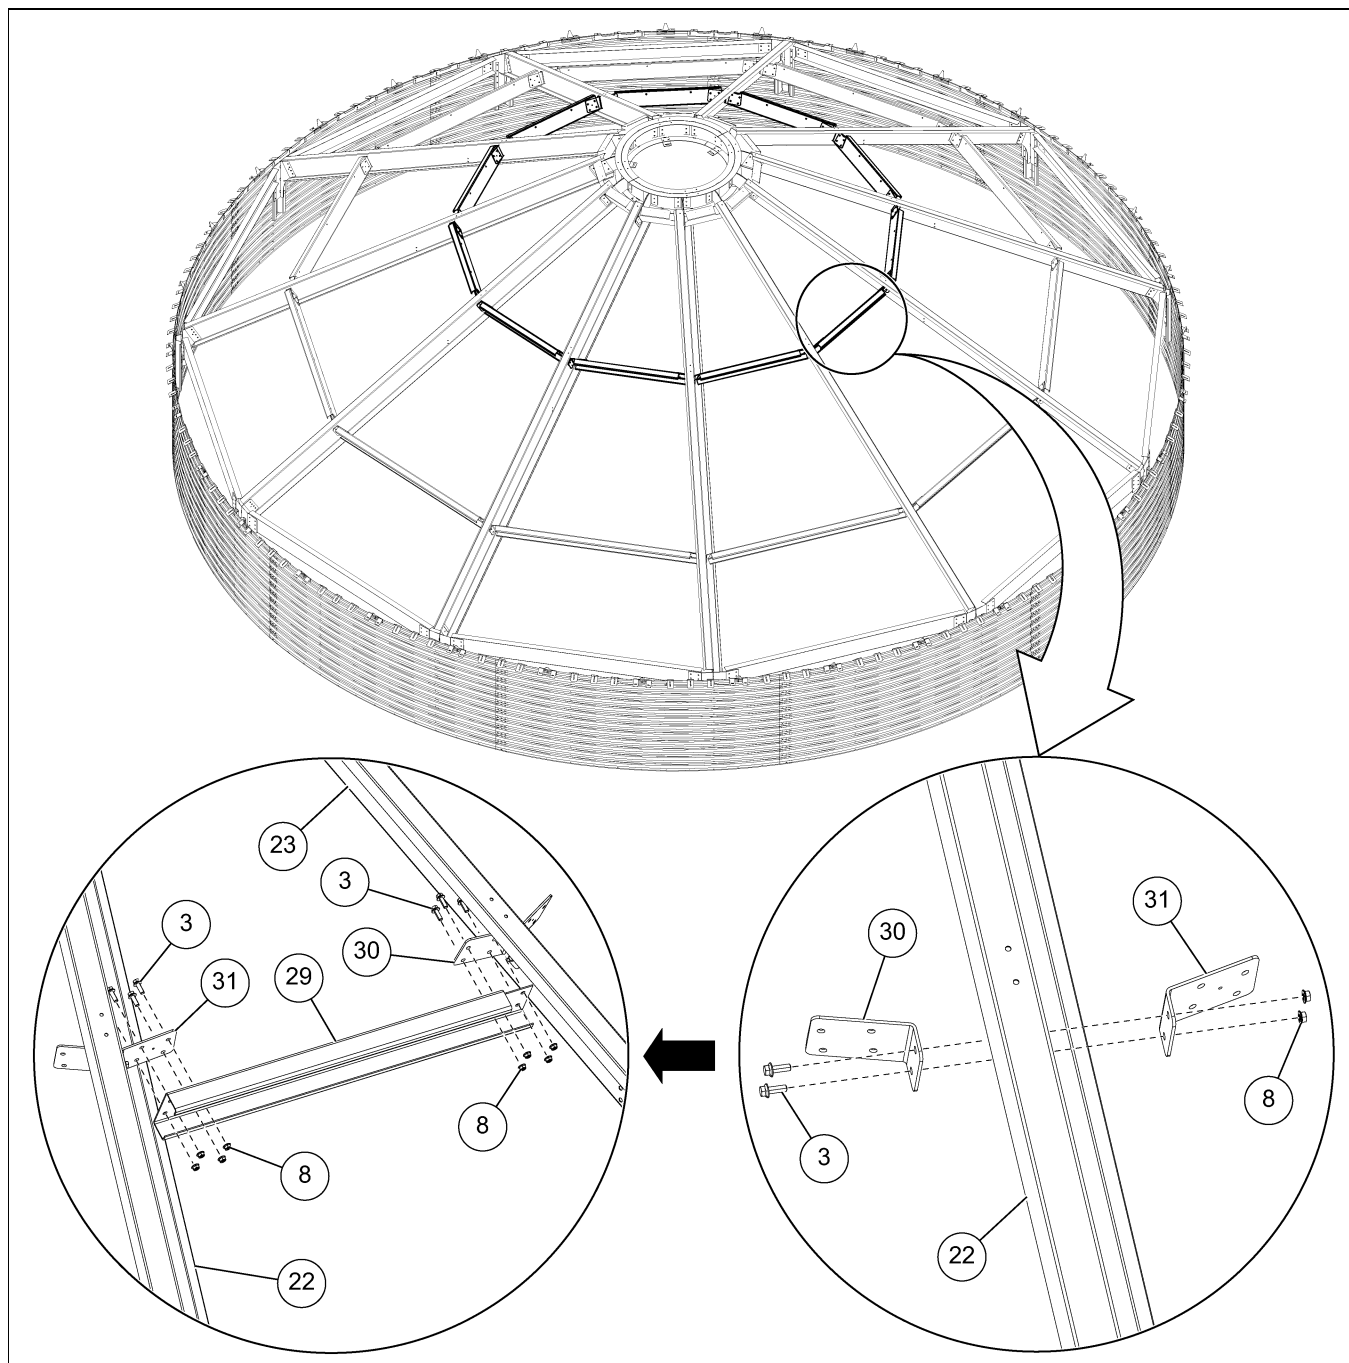

Figure 4N *Installing the Upper Purlin*
1. Attach a right purlin clip (30) and a left purlin clip (31) to the right side roof rafter (23) using three 7/16" x 1-1/4" flange bolts (3) and 7/16" flange nuts (8).
2. Attach a right purlin clip (30) and a left purlin clip (31) to the left side roof rafter (22) using three 7/16" x 1-1/4" flange bolts (3) and 7/16" flange nuts (8). \(See Figure 4N on Page 29.\)
3. Position the purlin (29) between the roof rafters (22 and 23) and install to the left and right purlin clips (30 and 31) using eight 7/16" x 1-1/4" flange bolts (3) and 7/16" flange nuts (8).